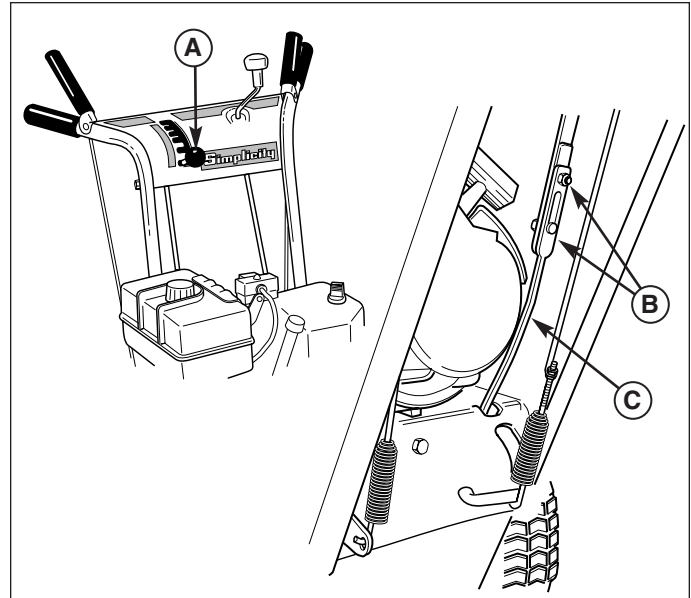

Figure 18. Speed Selector Linkage Adjustment
1. Move the ground speed control (A, Figure 18) fully forward.
2. Loosen the hardware (B) securing the upper and lower shift rods.
3. Push the lower rod (C) down fully (into the housing).
4. Make sure the ground speed control (A) is in the full forward (5th gear) position. Pull the two rods apart and tighten the shift rod hardware (B).